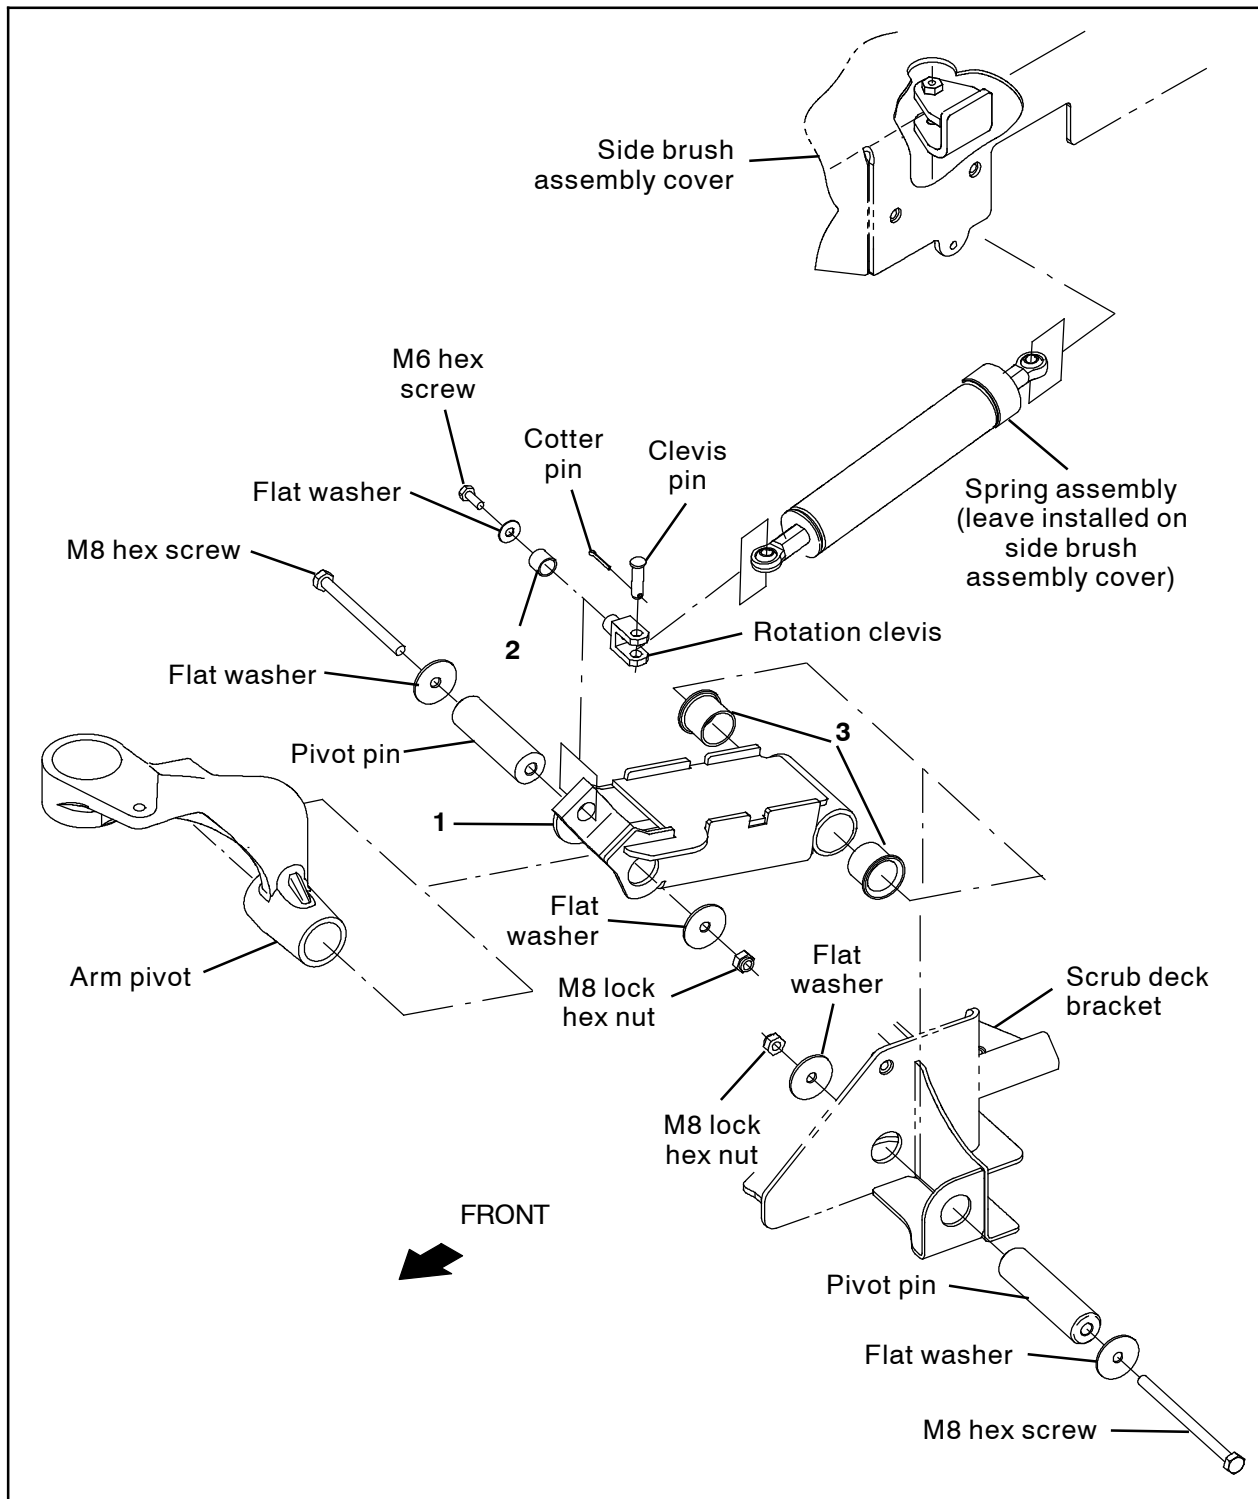

FIG. 1
1. Remove the M8 lock hex nut and flat washer from the M8 hex screw securing the pivot pin to the scrub deck bracket and link channel. Set the flat washer aside. (Fig. 1)
2. Thread the M8 lock hex nut back onto the M8 hex screw so the M8 hex screw and M8 lock hex nut can be used to pull the pivot pin from the scrub deck bracket and link channel. (Fig. 1)
3. Pull the M8 hex screw from previous step and the pivot pin out from the scrub deck bracket and link channel. Set the M8 hex screw, flat washer, pivot pin, and M8 lock hex nut aside. (Fig. 1)
4. Remove the cotter pin and clevis pin securing the rotation clevis to the spring assembly. Set the cotter pin and clevis pin aside. (Fig. 1)
5. Remove the rotation clevis from the link channel. Set the rotation clevis, M6 hex screw, and flat washer aside. Discard the sleeve bushing. (Fig. 1)
6. Remove the M8 lock hex nut from the M8 hex screw securing the pivot pin to the arm pivot and link channel. Set the M8 lock hex nut aside. (Fig. 1)
7. Pull the M8 hex screw from the pivot pin, arm pivot and link channel. Set the M8 hex screw, both flat washers, and pivot pin aside. Discard the link channel. (Fig. 1)
8. Use the M8 hex screw, both flat washers, pivot pin, and M8 lock hex nut to install the link channel (1) onto the arm pivot. (Fig. 1)
9. Use the M6 hex screw and flat washer to install the rotation clevis onto the link channel (1). (Fig. 1)
10. Use the clevis pin and cotter pin to reinstall the rotation clevis onto the spring assembly. (Fig. 1)
11. Use the M8 hex screw, both flat washers, pivot pin, and M8 lock hex nut to install the link channel (1) onto the scrub deck bracket. (Fig. 1)